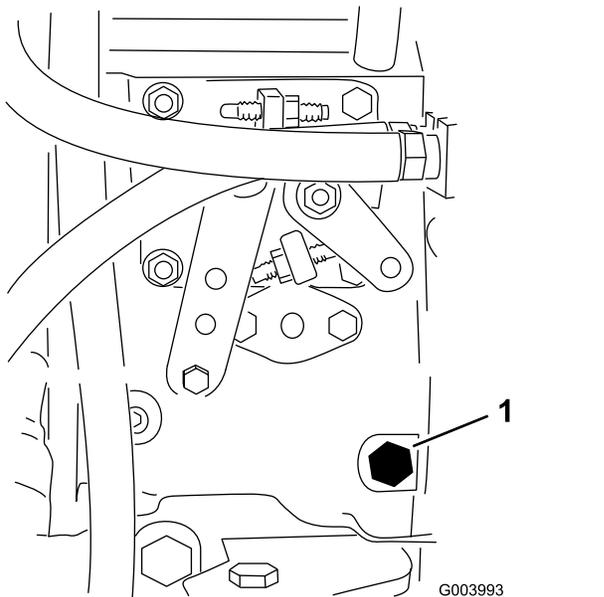

Figure 30
3. Open the air-bleed screw on the fuel-injection pump (Figure 30) with a 12 mm wrench.